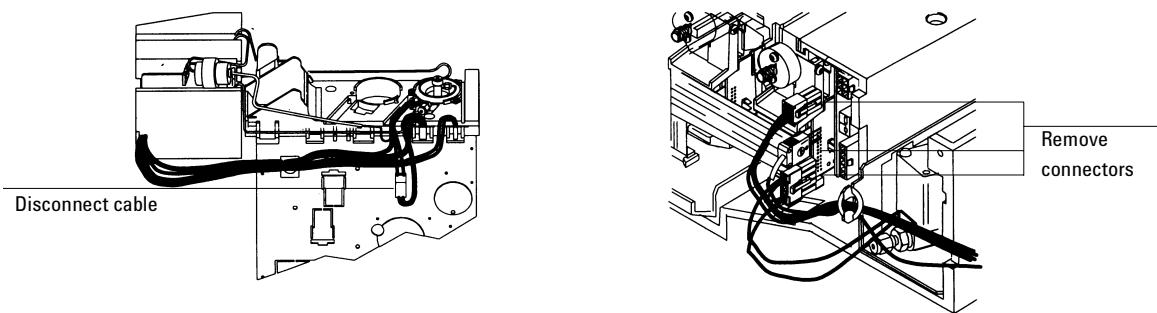

Figure 240-12 PTV electrical connections
4. Install the new cryo assembly over the inlet body. Be sure to align the assembly so that the fitting is closest to the wires, as shown in Figure 240-12.